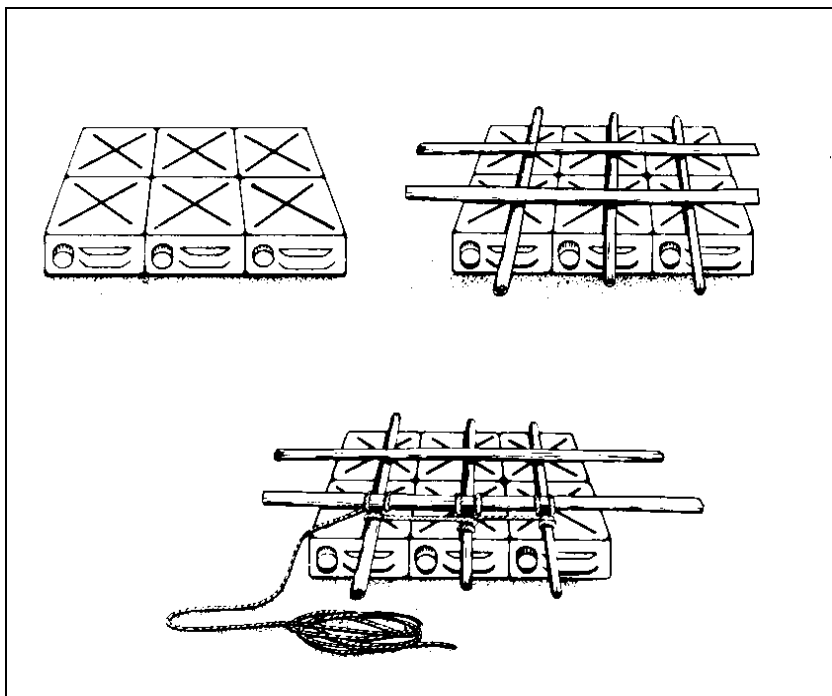

Fig 14-5-2 Six Can Raft
2. **Gasoline Can Raft.** Empty gasoline cans can be tied together to form any size of raft or waterwings. For waterwings, two cans should be lashed together with a short lashing and the swimmer lies between the two. A raft is constructed by lashing the cans to a light framework of saplings or bamboo. It may be used for personnel or equipment may be put on it and push the raft across by swimming. For calculating the load capacity of the raft, use a figure of 15 kg per can. For example, a six can raft (Fig 14-5-2) has a load capacity of 90 kg. Construction time for two soldiers is approximately 20 minutes. Equipment required is: